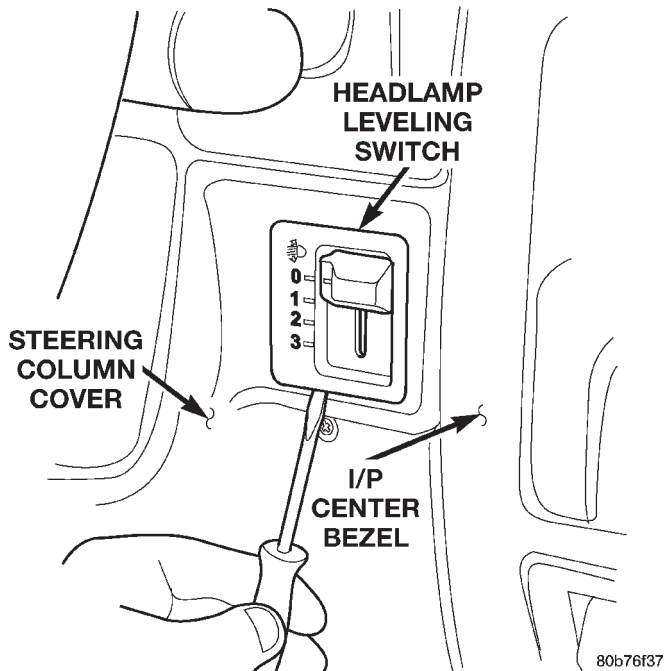

Fig. 1 Headlamp Leveling Switch
(1) Using a flat blade screwdriver or similar tool between the headlamp leveling switch and the steering column cover (Fig. 1). Gently pry the headlamp leveling switch out of the steering column cover.